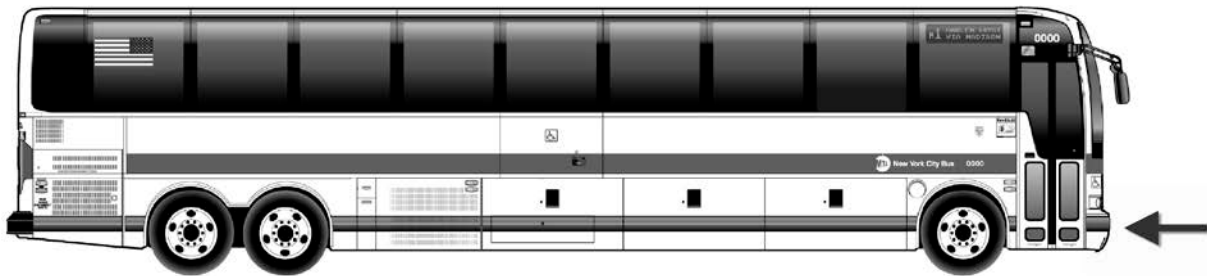

FIGURE 1
1. On the vehicle, locate the front bumper.(Fig. 1)